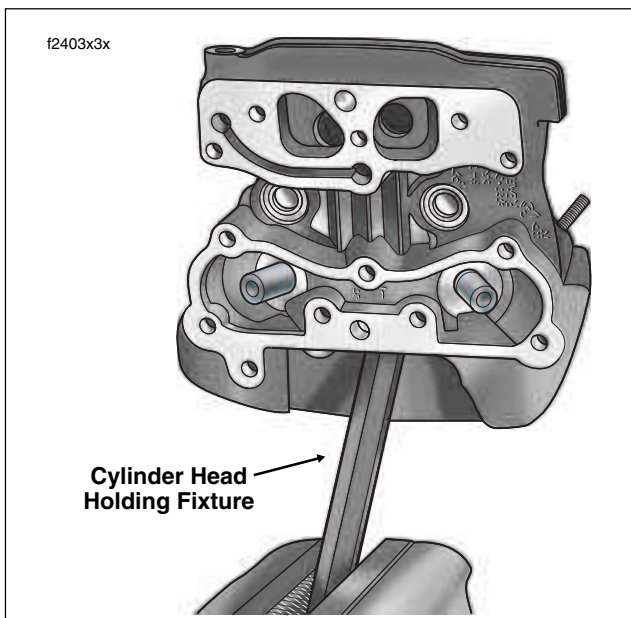

Figure 3-64. Install Cylinder Head Holding Fixture in Vise
- b. Clamp tool in vise at a 45 degree angle (or one that offers a comfortable working position). See Figure 3-64.